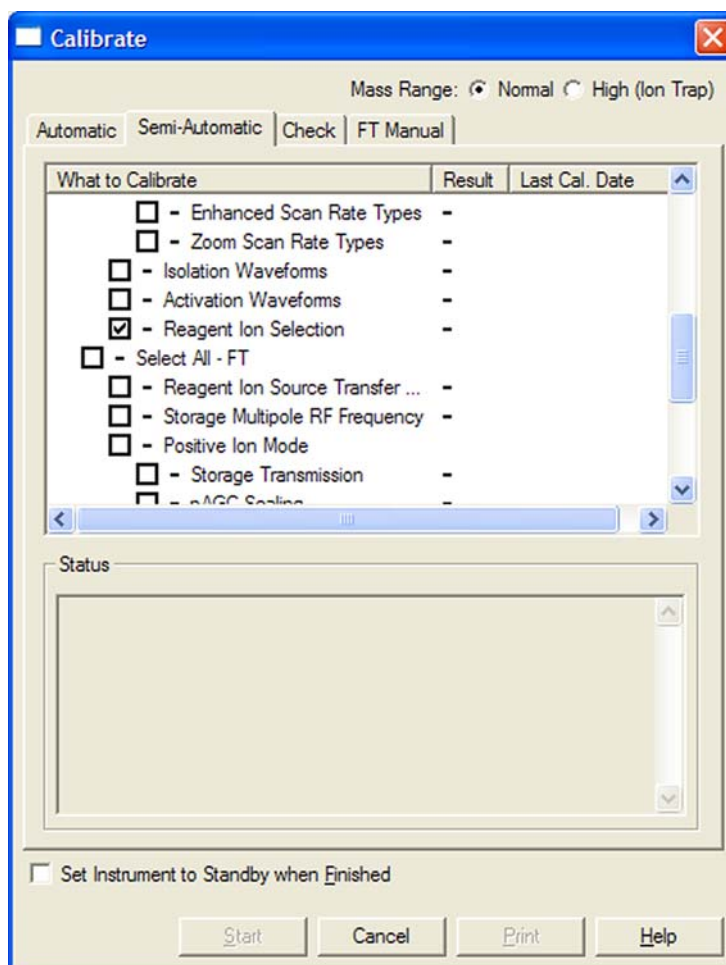
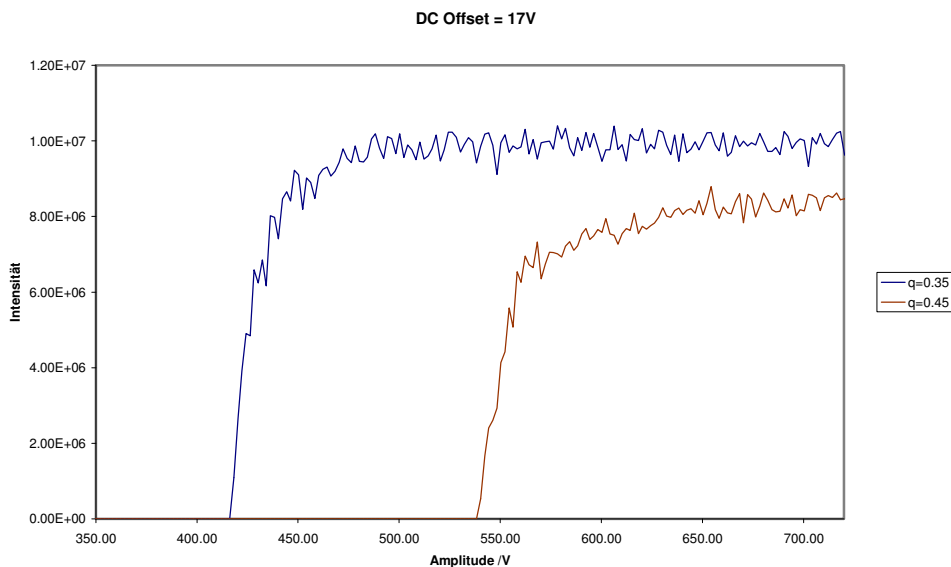

Figure 7-20. Calibrating the Reagent Ion Selection
Figure 7-23. Point of optimum performance
7. Open the Calibrate dialog box and perform a semi-automatic calibration of the Reagent Ion Selection. See Figure 7-20 on page 7-23 and Figure 7-23 on page 7-25.
With offset voltages between 15 V and 20 V, no noding is visible. See Figure 7-23. The transmission reaches a maximum shortly after the start of the stable region, resulting in a high transmission at optimum filter efficiency. The calibration results in a broad plateau with constant intensity.